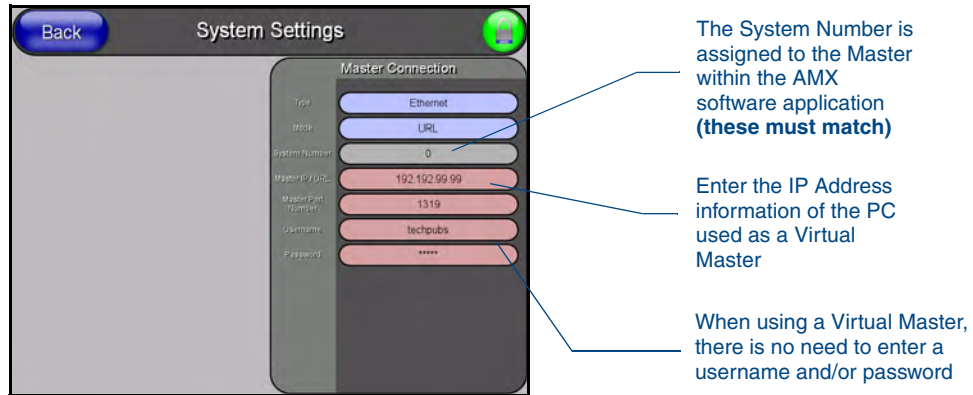

FIG. 30 Sample System Settings page (for Virtual Master communication)
14. Select **Protected Setup > System Settings** (located on the lower-left) to open the System Settings page (FIG. 30).